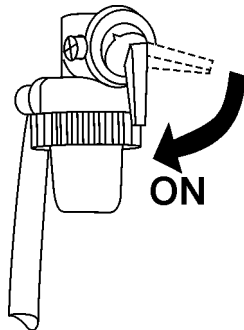

Figure 11. Engine Fuel Valve Lever (ON Position)
1. Place the engine **fuel valve lever** (Figure 11) in the "ON" position."